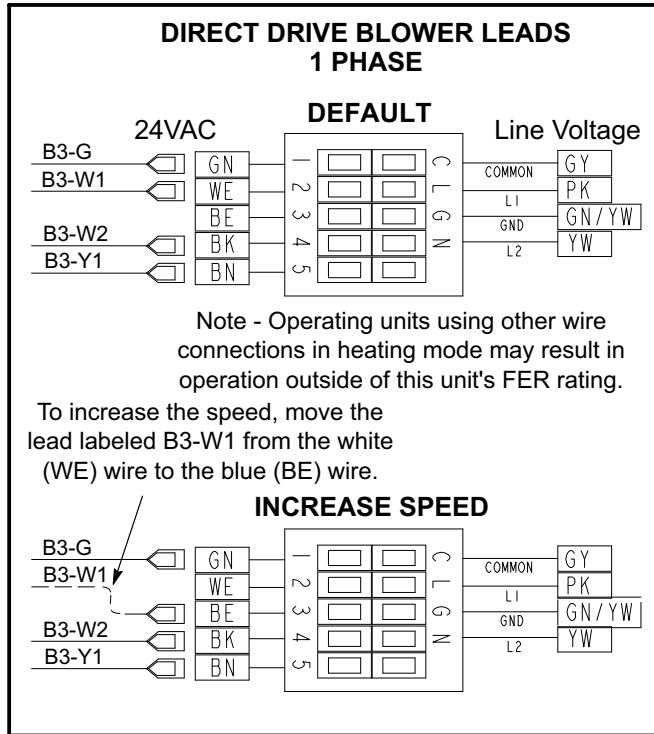

FIGURE 19
- 2- If CFM is lower than the design specified CFM, move the leads as shown in figure 19 for 208/230 volt single phase units.